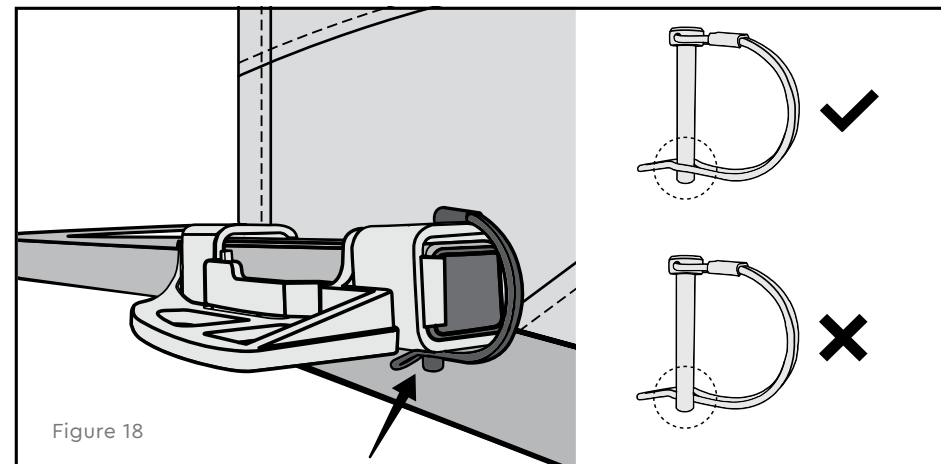

Figure 18
3. Make sure the retaining pin has locked properly as shown (Figure 18).